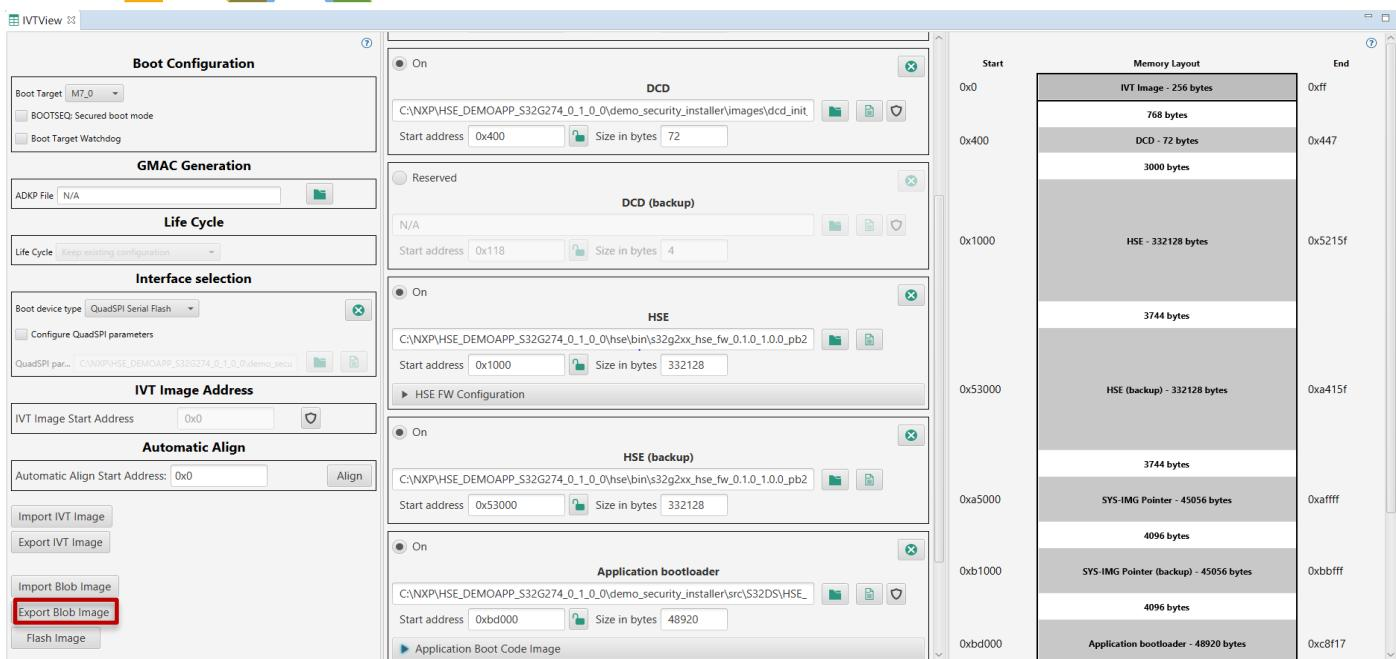

Figure 4 Generate blob image (step 5)
- 5) Press the *Export Blob Image* button and select where to export it – **Figure 4**.